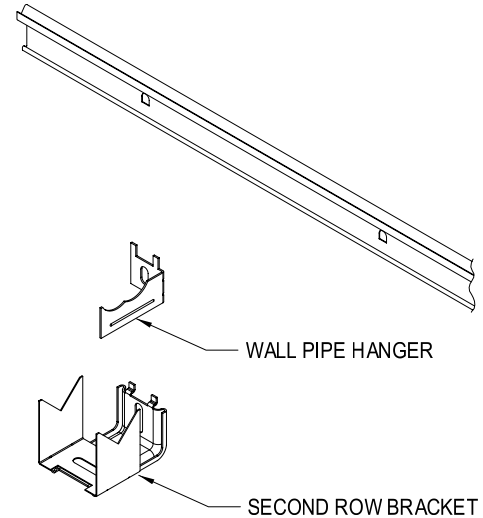

FIGURE VH-3
- (3) On enclosed units, the second row brackets and wall pipe hangers will be mounted directly to the wall. (The brackets and pipe hangers should be installed approximately 36" apart.) Install the second row brackets and wall pipe hangers to the wall using fasteners suitable for wall construction. (FIGURE VH-3)